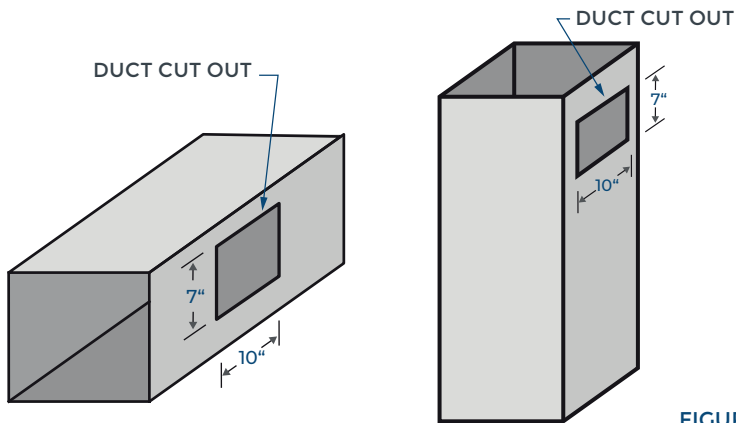
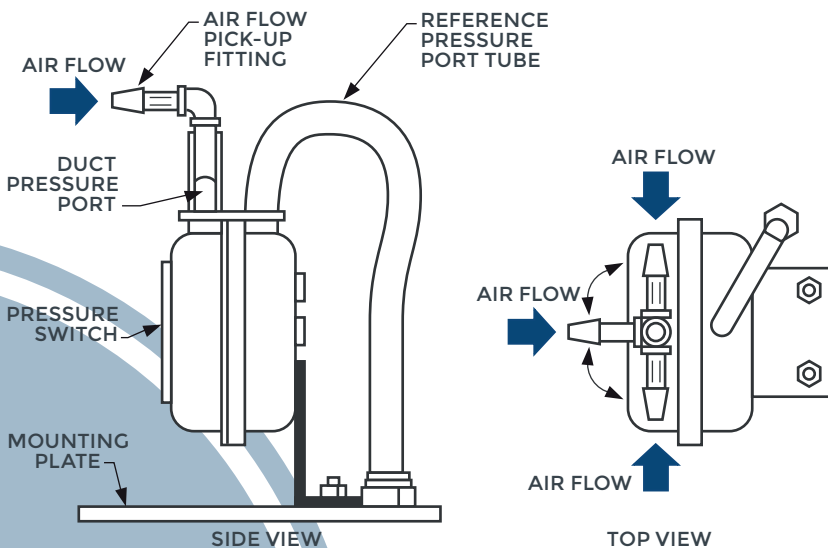

FIGURE 2
FIGURE 3
- The AirPlate must be mounted horizontally, even in vertical ducts. (See Figure 2) If mounted vertically, the pressure switch may remain actuated after the fan stops.
**Step 1.** Cut a 10" X 7" rectangular hole in the duct (See Figure 2).
**Step 3.** Install the model 100 or 200 ionization unit to the AirPlate using the four (4) machine screws (provided).
- b. mount the supplied Airflow Pick-Up Fitting onto the Duct Pressure Port on the pressure switch located on the back of the plate. Rotate the Airflow Pick-Up Fitting so that the air in the duct flows into the fitting opening. This converts velocity pressure to static pressure (See Figure 3).
- In duct systems where 0.05 inches of WG is not consistently present, ensure that the supplied Airflow Pick-Up Fitting is installed correctly and is rotated in the correct orientation so that the air in the duct flows into fitting's opening. (See Figure 3).